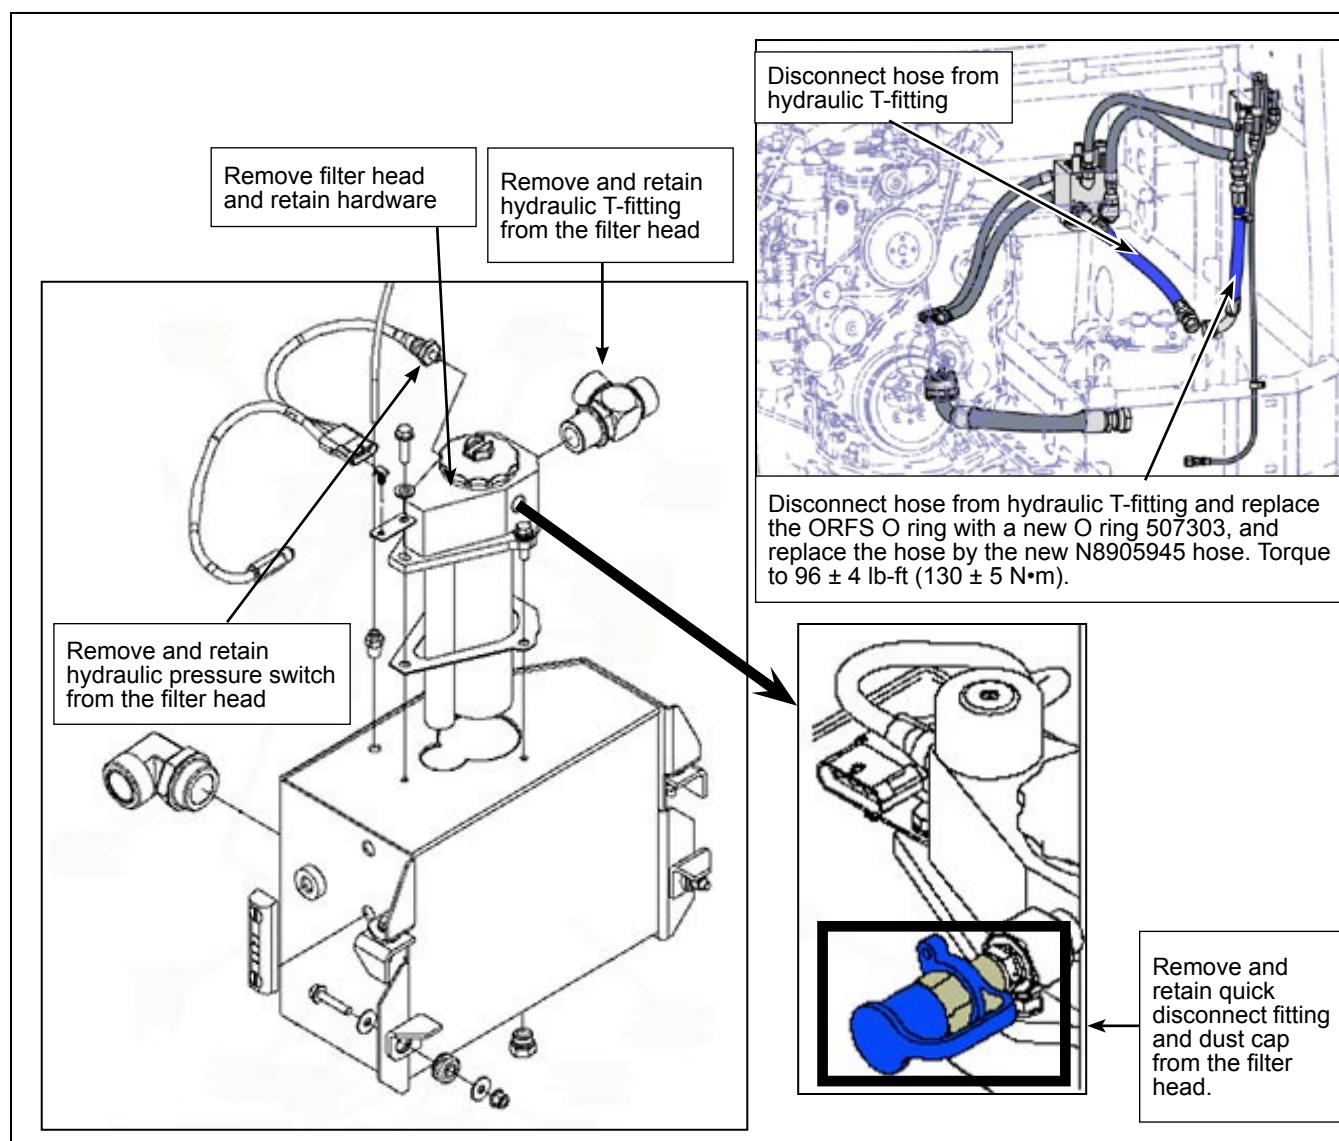

Figure 2 - Hydraulic Parts to Retain for Filter Head and Installation of new Hose
- 1.7. Disconnect the hydraulic hoses from the filter head. Install a clean rag or clean plastic bag at the end of the disconnected hydraulic hoses. See Figure 2.
- 1.9. Disconnect and remove the hydraulic pressure sensor. Retain the pressure sensor. See Figure 2.
- 1.11. Remove the filter head from the hydraulic tank. Retain the hardware and harness support bracket. See Figure 2.
- 1.12. Remove the hydraulic T-fitting from the head filter. Clean and retain the hydraulic T-fitting. See Figure 2.
- 1.13. Remove the hydraulic pressure switch from the filter head. Clean and retain the hydraulic pressure switch. See Figure 2.
- 1.14. Remove the quick disconnect fitting and dust cap from the filter head. Retain the quick disconnect fitting and dust cap. See Figure 2.
- 1.15. Remove the hydraulic hose connected to the hydraulic piping. See Figure 2.
- 1.16. Replace the ORFS O ring on the piping with a new ORFS O ring 507303 and install the new hydraulic hose N8905945 to the Hydraulic piping. See Figure 2 for torque value.